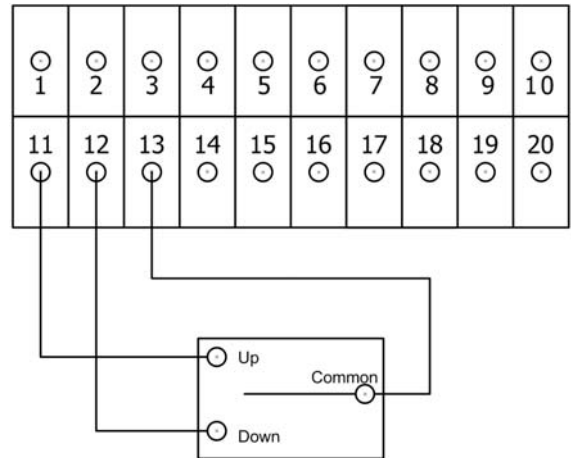

Figure 20. Dry Contacts
- a. Connect the common wire from your switch to terminal 13 (see Figure 20).